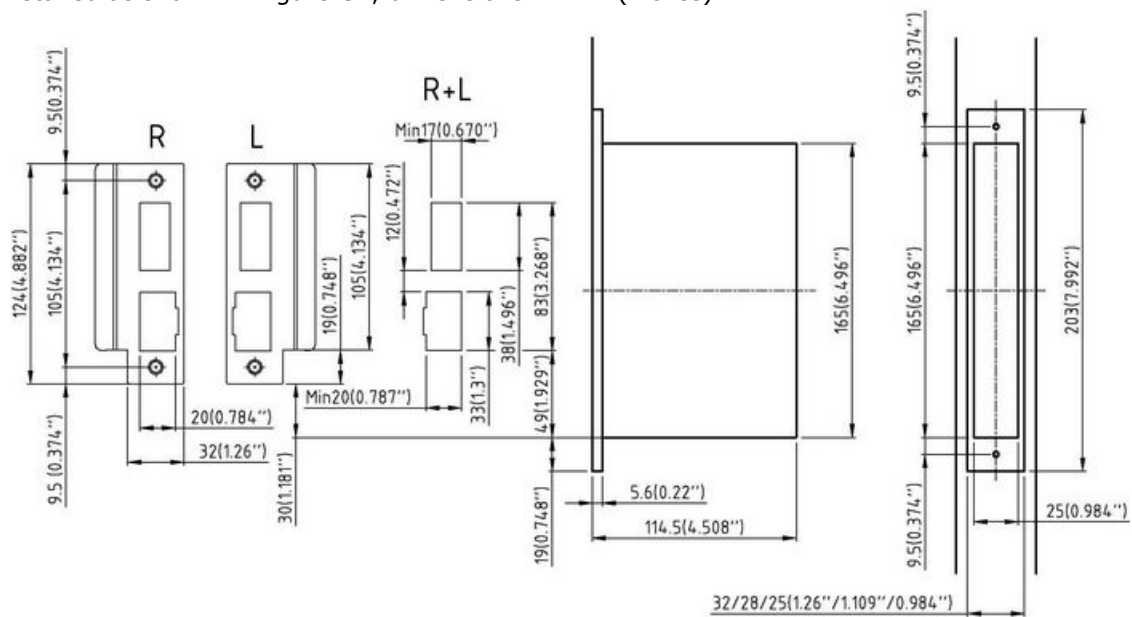

Figure C1: Striker plate and cut-out
When installing or upgrade to ANSI DA ADB lock case, the external striker plate must be installed as shown in Figure C1; dimensions in mm (inches).
2. Place the ADB striker plate in the frame as shown in Figure C1, 49 mm (1 30/32") above the bottom of the lock front (30mm + 19mm, i.e. 3/4"+1 3/16").